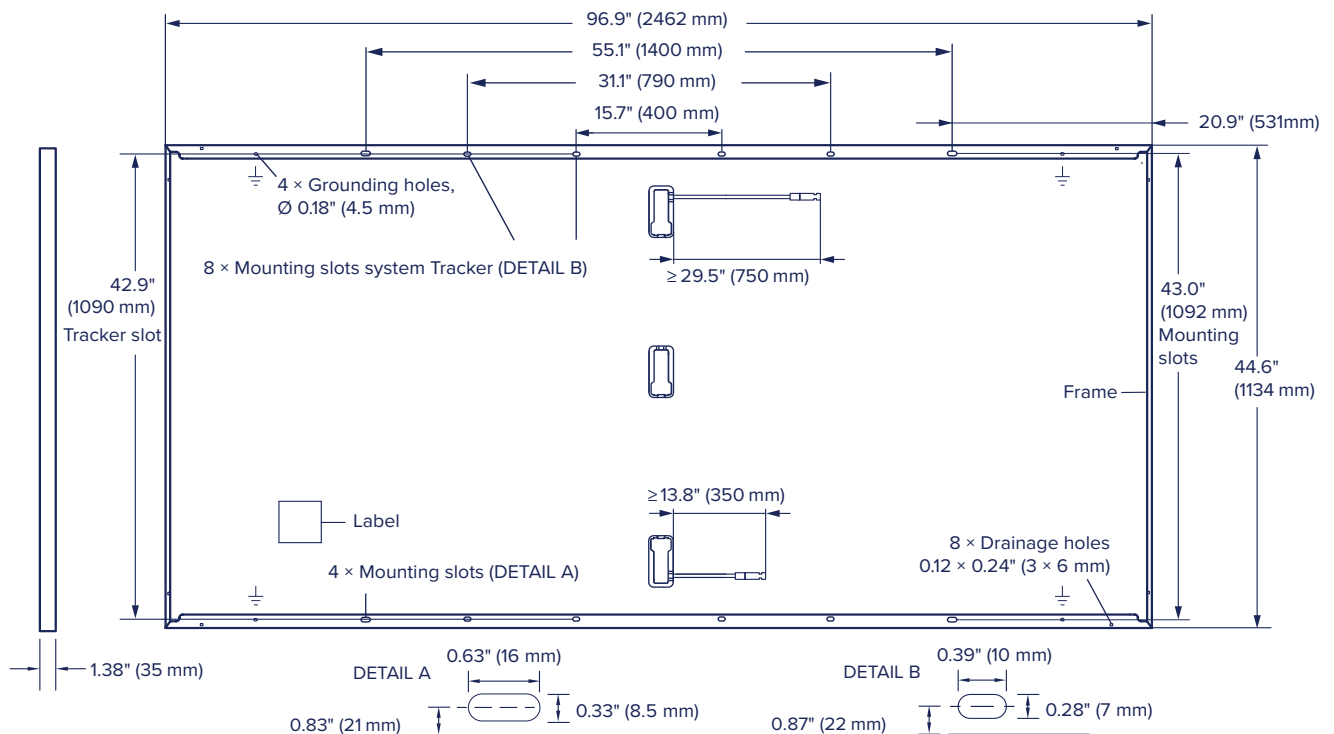

Fig. 1: External dimensions and components for Q.PEAK DUO XL-G11S.3/BFG, Q.PEAK DUO XL-G11S.7/BFG.
- Clamp position: center of contact area in the axis of the mounting slots (Detail A, Fig.1) or closer to the hollow chamber.